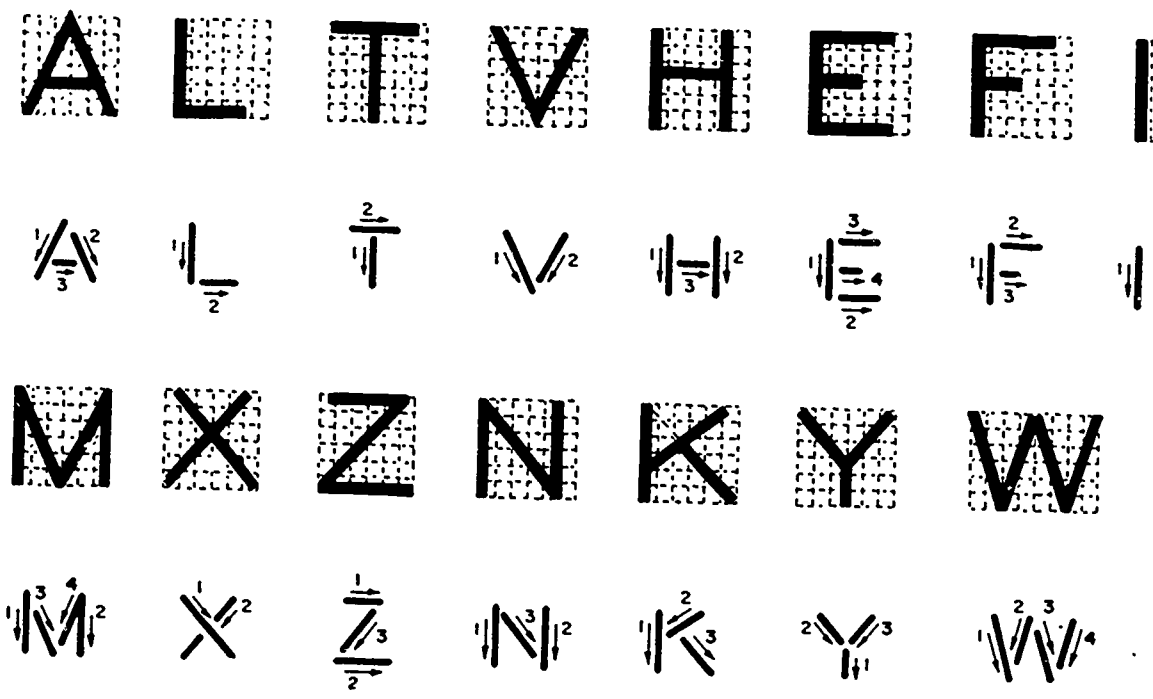

Figure 3-3. Vertical straight line capitals.
**Capital Letters.** In learning the form of each letter and the sequence of stroke used to make each letter, let us begin with the capital letters that are made entirely of straight lines. These letters are shown in figure 3-3. Notice that, except for the W and the I, the letters have been placed within a parallelogram which is divided into six equal spaces both horizontally and vertically. The letter I, being the basic vertical stroke, makes it possible for you to determine the width of each letter at a glance. The strokes with arrows beneath each letter show the direction and order of strokes used to make each letter. As you can see, the strokes are usually made from top to bottom and from left to right.